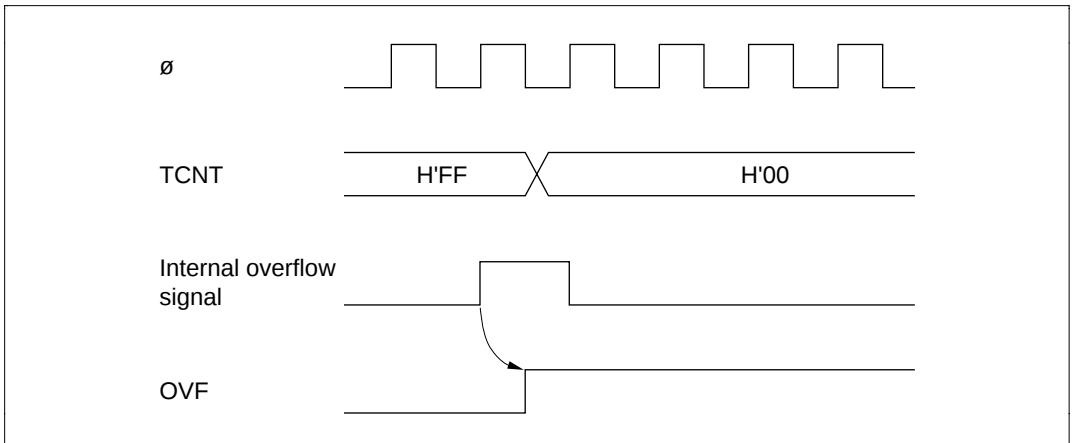

Figure 10-8 Setting of Overflow Flag
(1) Setting of TCSR Overflow Flag (OVF): The overflow flag (OVF) is set to 1 when the timer count overflows (changes from $H'FF$ to $H'00$). Figure 10-8 shows the timing of this operation.